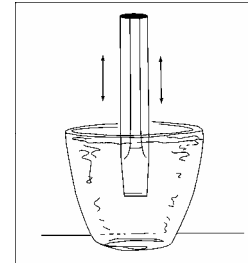

Figure 4.3
- Cool the hammer in water until the steam stops. As you are cooling the hammer, move it slightly up and down in the water to avoid causing cracks at the waterline, which can result from uneven cooling. See Figure 4.3.